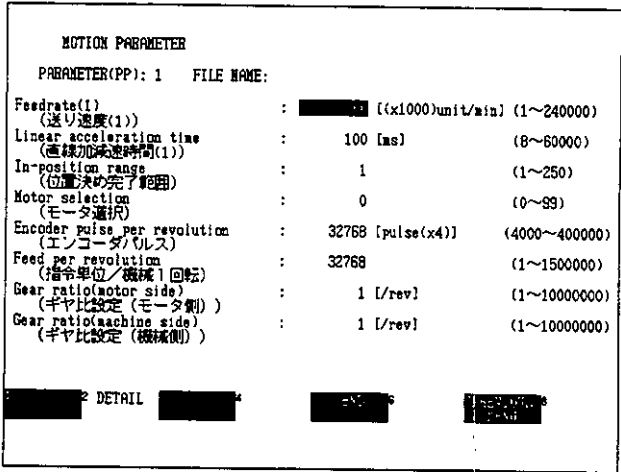

Figure 6.321
- 1) Display the Parameter Setting Screen shown in *Figure 6.321*.
- (1) Use the cursor keys to scroll the screen up and down.
- (2) Select Previous Menu to return to the screen displayed in *Figure 6.321* (the Main Menu).